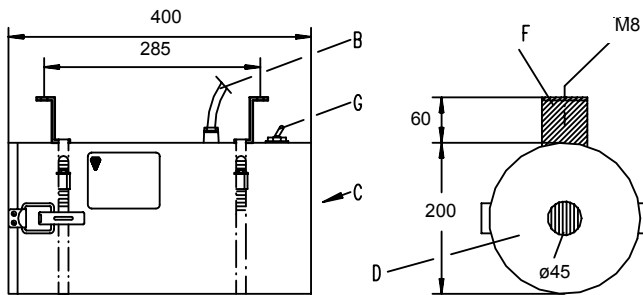

Figure 2
- F = (Figure 2) fastening / supporting, M10
- G = (Figure 2) on- / off switch
b) Vacuum, round corresponding to Figure 2: